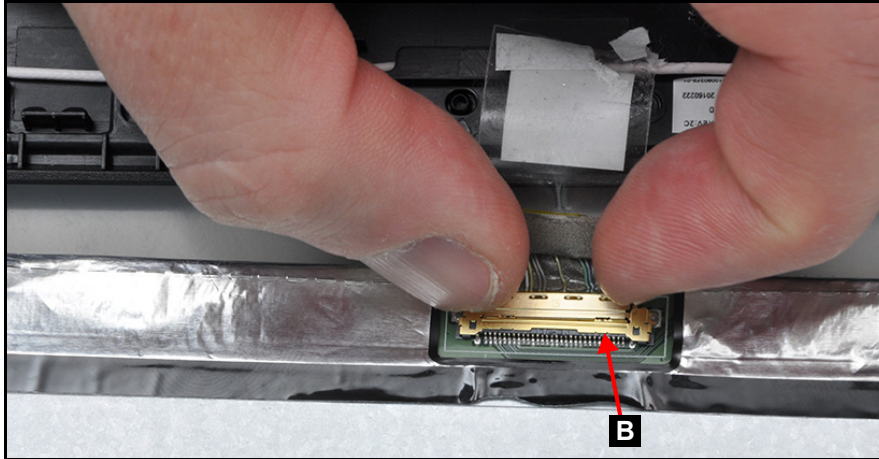

Figure 3-80. eDP Connector
2. Connect the eDP cable to the LCD panel connector (B) (Figure 3-80).